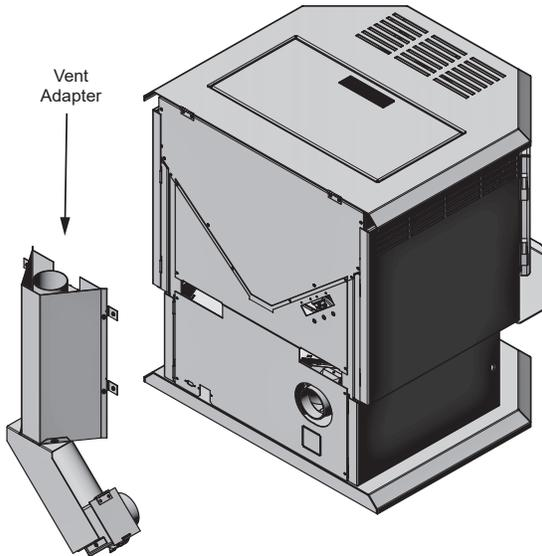

Figure 2
4. Tighten the adjusting screws when the shield is in the proper position (Figure 2).